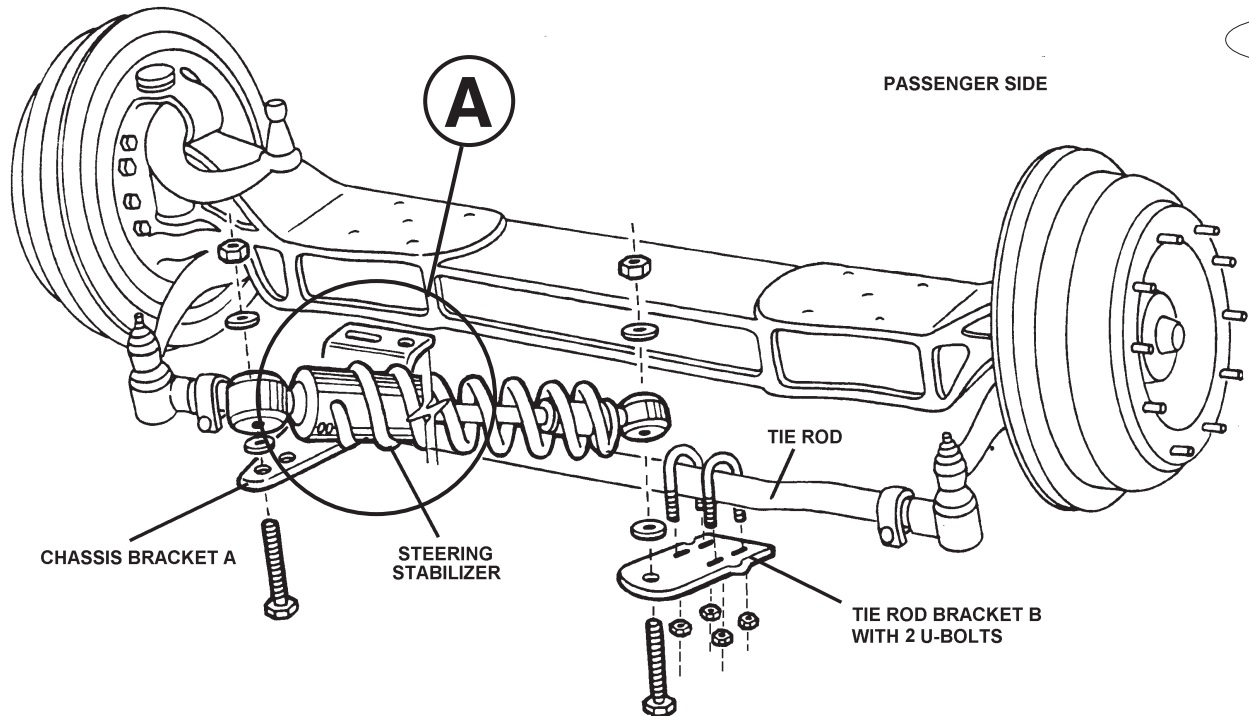

Fig.1
**Note:** Roadmaster makes multiple steering stabilizers. The unit depicted in these instructions may vary from your unit but all stabilizers will follow these instructions. If installing a Reflex, ensure that the spring is fully-seated in its track on the collar of the unit. If it is installed without the spring fully-seated in its track, the unit could malfunction or otherwise fail to operate properly (Fig.1 – A).
4. Place the stabilizer's bottom end mount on the chassis bracket mounting hole and place the piston rod in the tie rod bracket mounting hole. For installation, orient the bracket as shown above. Adjust the position of the tie rod bracket, if necessary. Place one of the supplied 1/2" flat washers between each mounting bracket bolt hole and stabilizer end mount. Insert one of the supplied 3 1/2" bolts through each steering stabilizer end mount and mounting bracket. Place one of the supplied 1/2" flat washers and 1/2" lock nuts on each mounting bolt and **tighten**. Allow the stabilizer end mounts to rotate easily around the mounting bolts. *Note:* The tie rod bracket should be positioned so that the top end is approximately 1/2" higher than the bottom end (Fig.1).